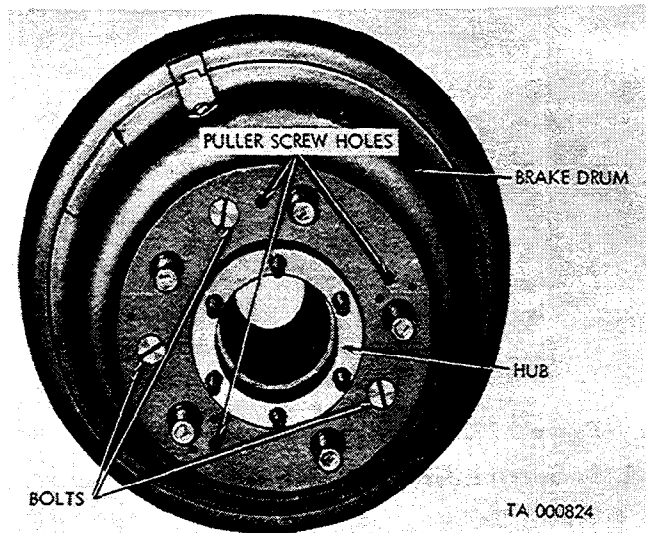

Figure 2-154. Brakedrum and hub.
(1) Remove the wheel and tire (para 2-142 *a*).
(2) Remove the three bolts that secure the brakedrum to the hub (fig. 2-154) using a broad-bladed screwdriver. If the bolts are corroded, strike the screwdriver with a hammer to shock each bolt, being careful not to damage the bolt slots.
(1) Apply a coating of water pump grease to the contacting surfaces of the brakedrum and the hub to prevent corrosion and to facilitate future removal.
(2) Position the drum on the hub, aligning the bolt holes. Install the three flathead bolts (fig. 2-154). Tighten the bolts evenly.